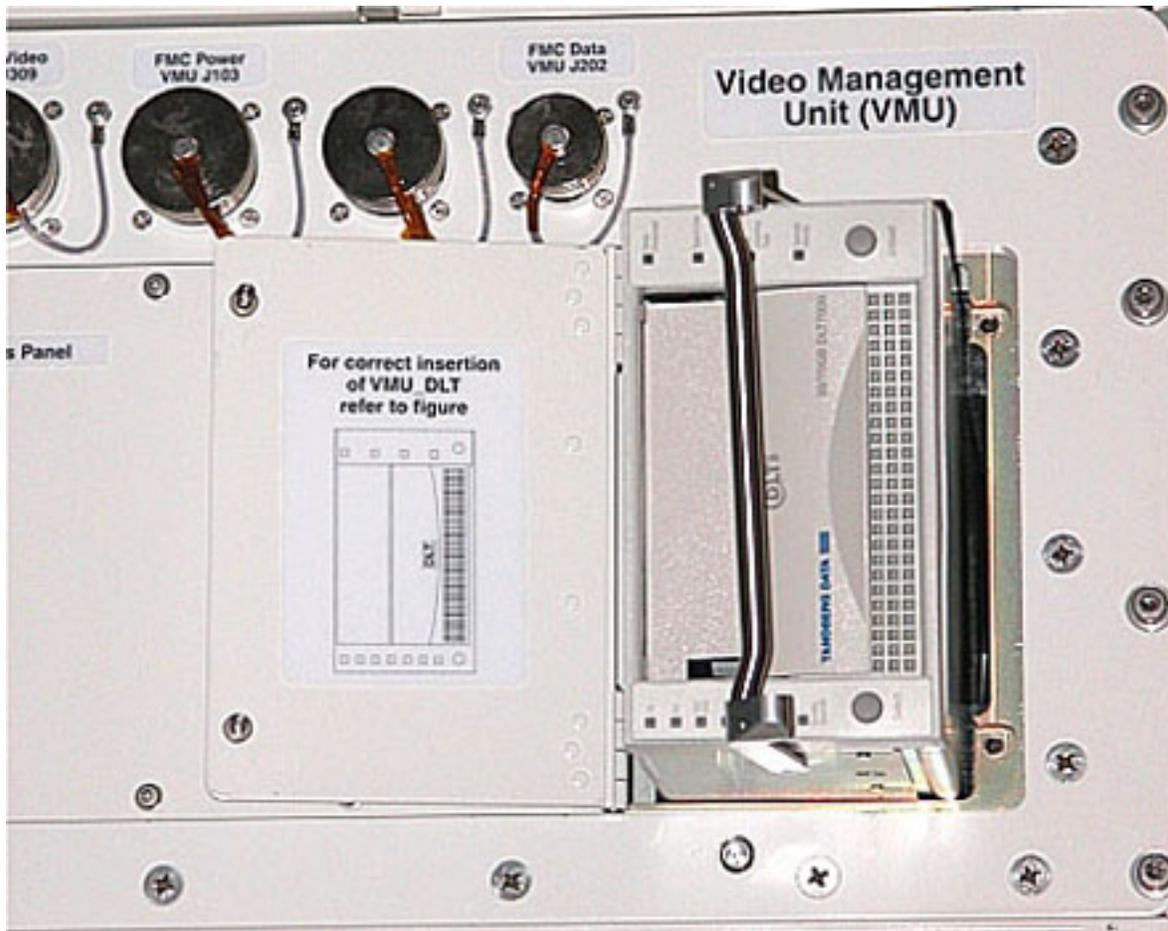

Figure 5. FSL VMU DLT Recorder Installation
- 3.1 Power connector →|← FSL VMU DLT Recorder Power Connector (Figure 5, right frame) .
- 3.2 Data Connector→|←FSL VMU DLT Recorder Data Connector (Figure 5, right frame).